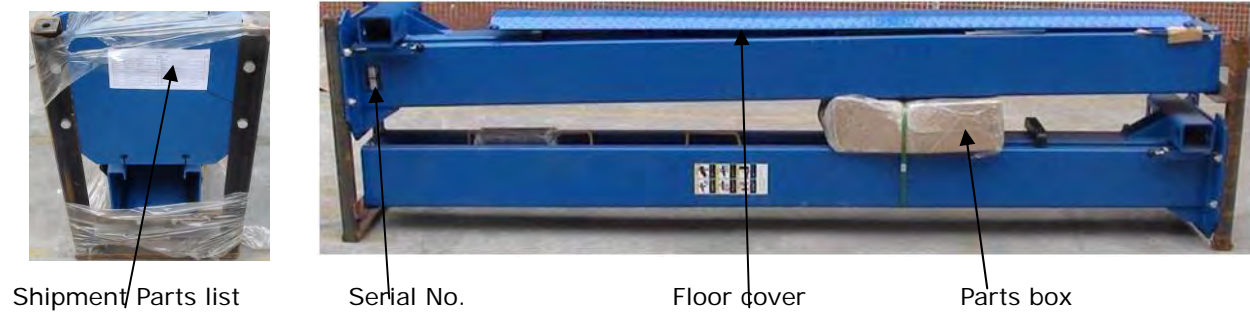

Fig. 6
2. Unload the lift with a fork lift or hoist, and open the outer packing carefully (See Fig. 6).